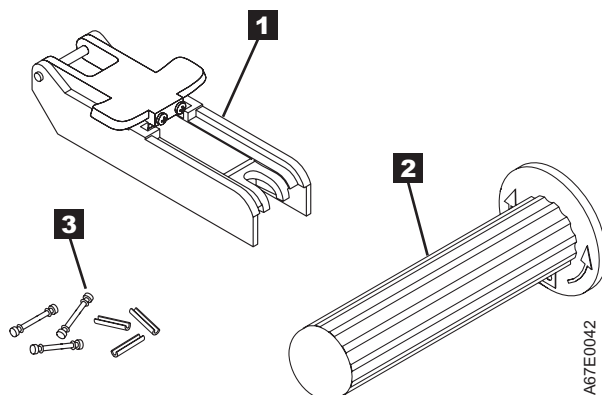

Figure 5-11. Leader Pin Reattachment Kit
- **Leader pin attach tool** (see **1** in Figure 5-11 on page 5-14). A plastic brace that holds the cartridge door open.
- **Cartridge manual rewind tool** (see **2** in Figure 5-11 on page 5-14). A device that fits into the cartridge's hub and lets you wind the tape into and out of the cartridge.
- **Pin supplies** (see **3** in Figure 5-11 on page 5-14). Leader pins and C-clips.